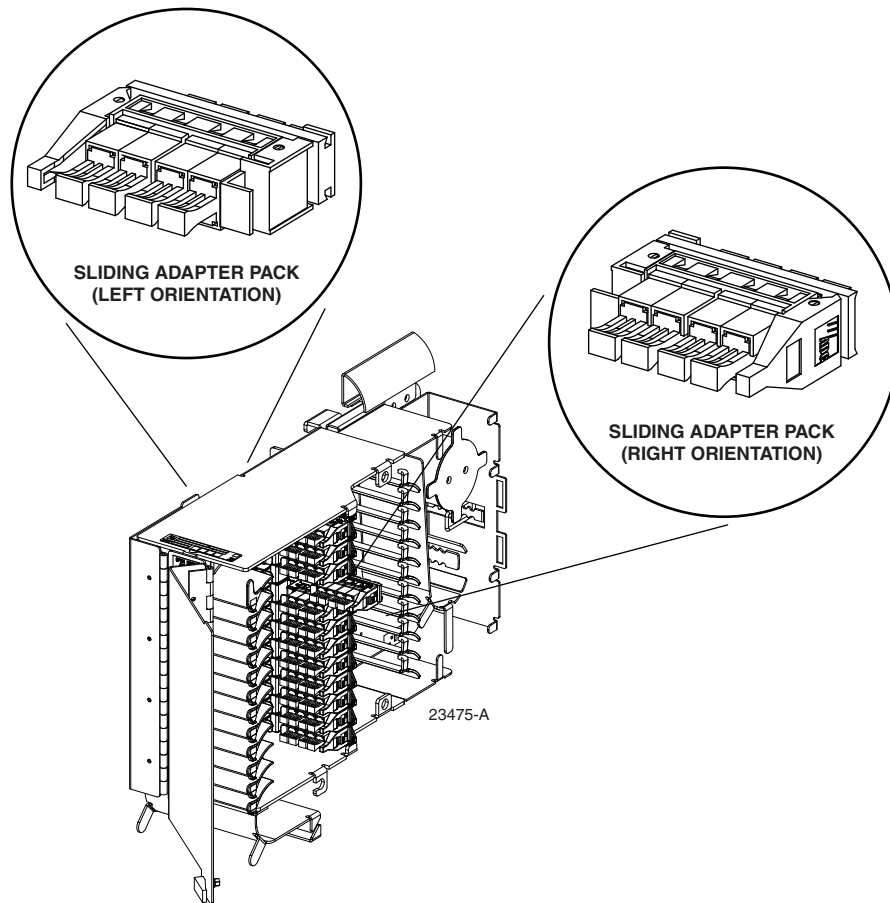

Figure 6. Adapter Pack Orientation and Installation in FTB
2. Orient the adapter pack for installation as shown in Figure 6.